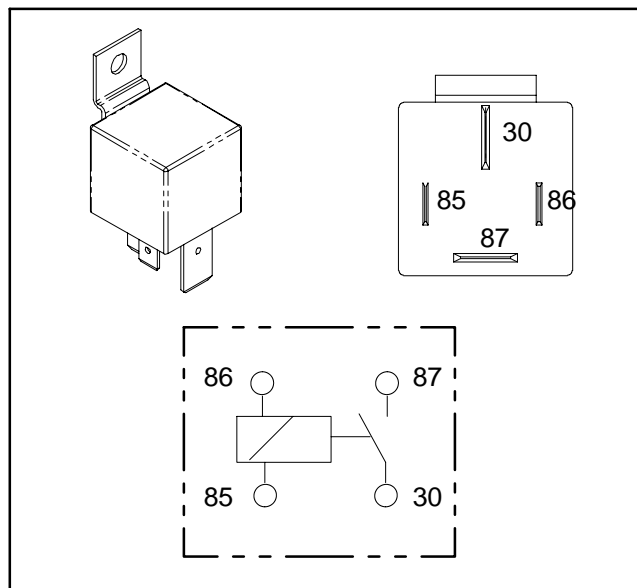

Figure 37
4. Verify coil resistance between terminals 85 and 86 with a multimeter (ohms setting) (Fig. 37). Resistance should be approximately 72 ohms.